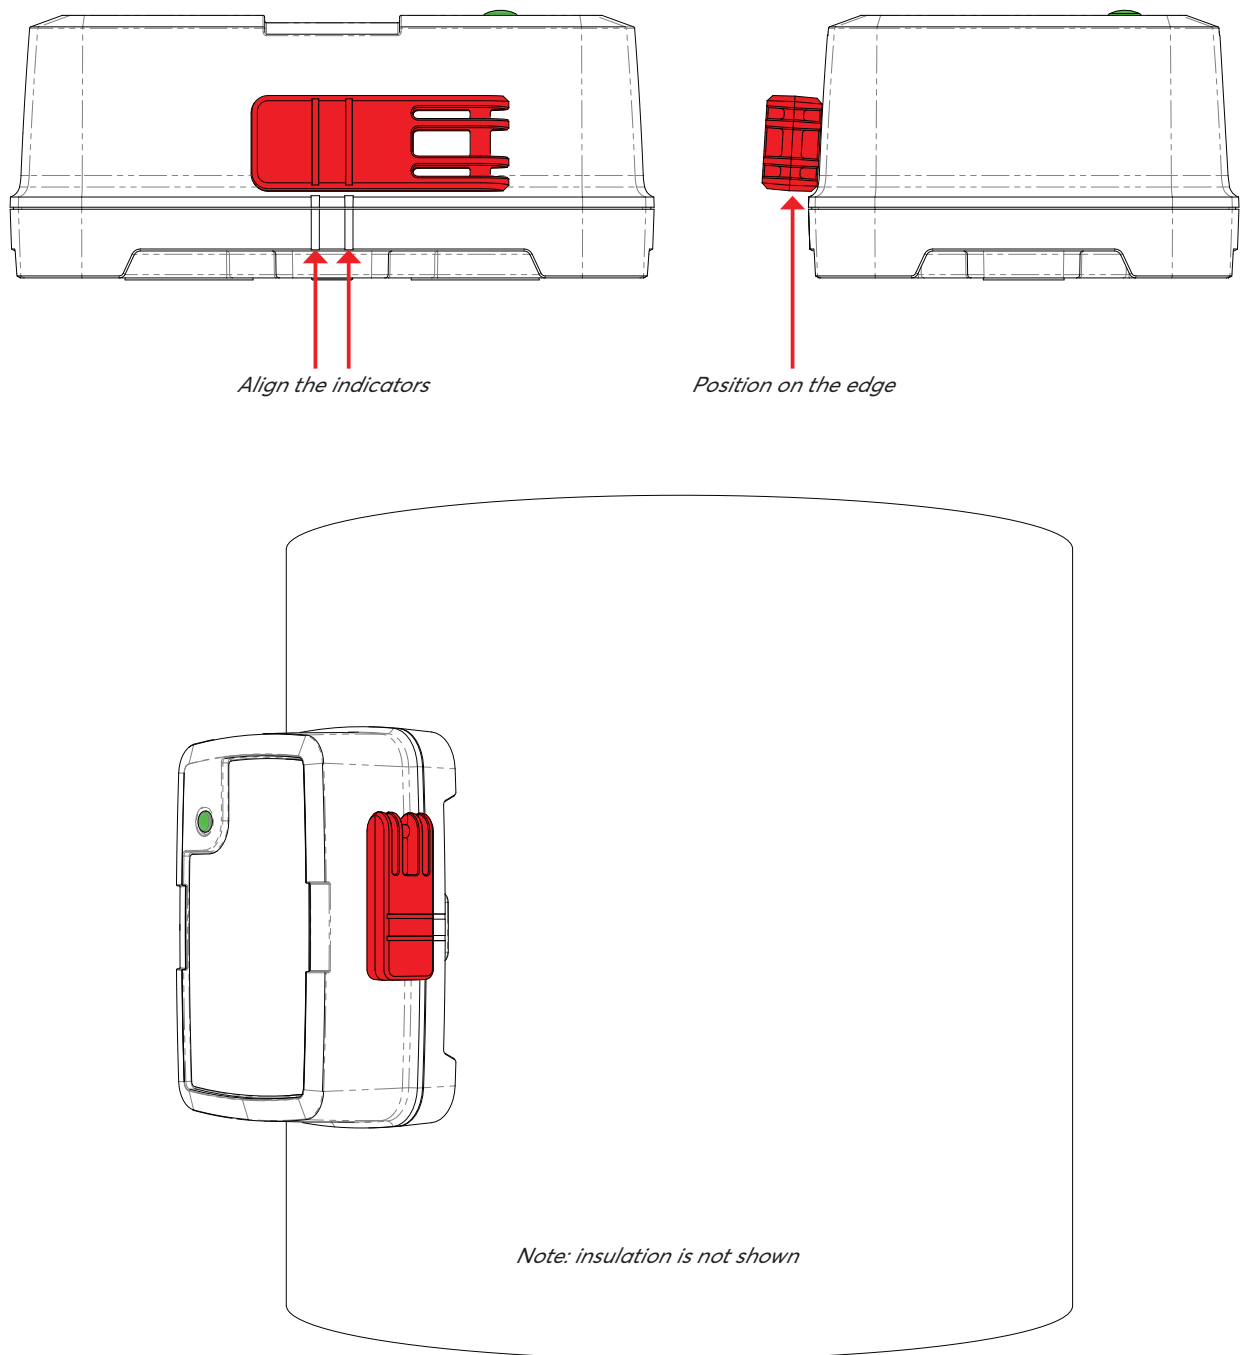

Fig. 3: Magnet Key Location
1. Hold the magnet key on the indicators of the device (Fig. 3 Page 4) and keep holding it, after 1 second the device will show its state